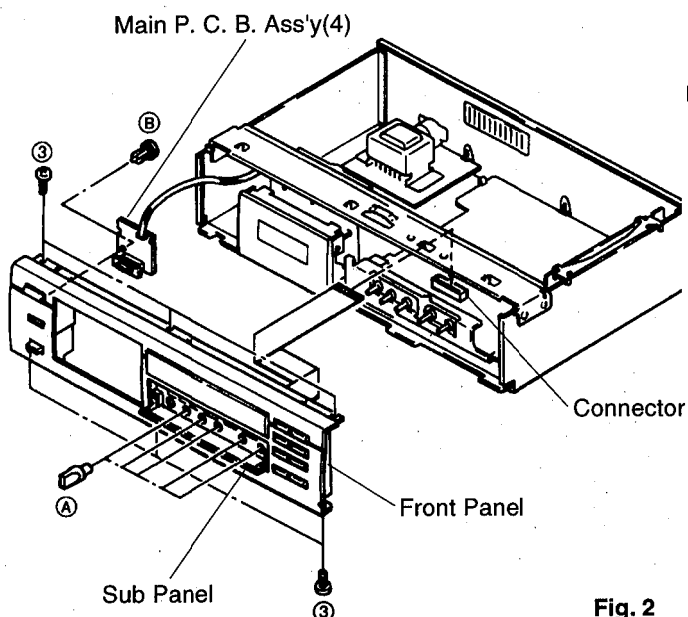

Fig. 2
- Remove 6 screws (③) in Fig. 2.
- Remove 5 knobs (A) in Fig. 2 after opening the Sub Panel.
- Remove 1 plastic rivet (B) in Fig. 2 and then remove the Main P.C.B. Ass'y(4).